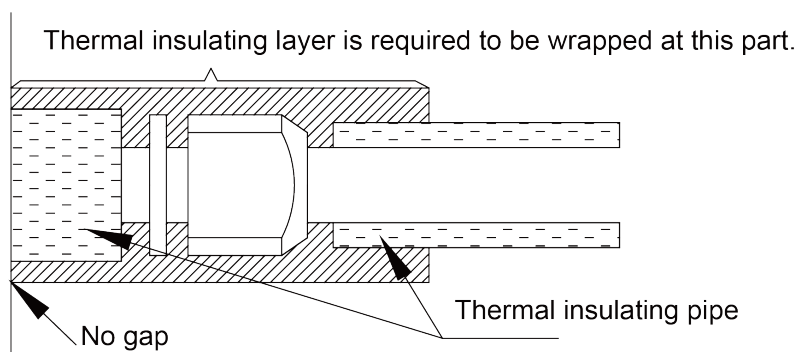

Fig 4.3.7.1
- 4) Joints of indoor and outdoor unit should be wrapped with insulating material and leave no gap between pipe and wall. See Fig.4.3.7.1.